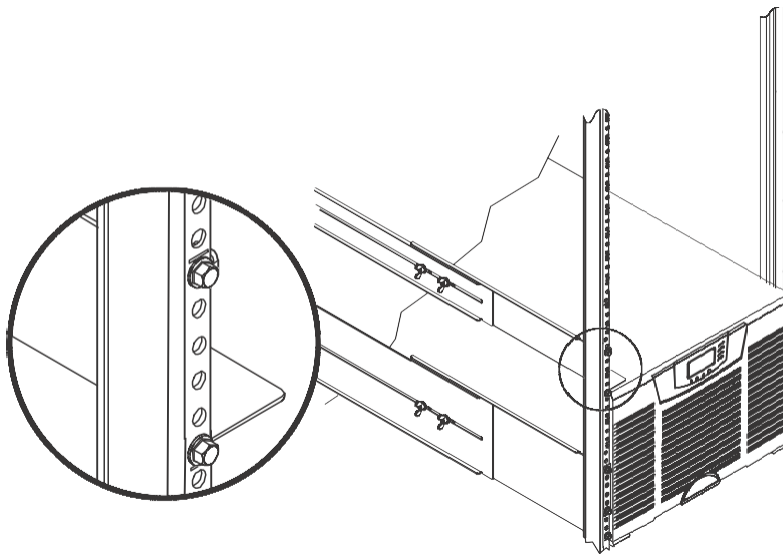

Figure 34. Securing the Front Rail
3. Secure the rail to the front of the rack with two hex-head screws (see Figure 34).